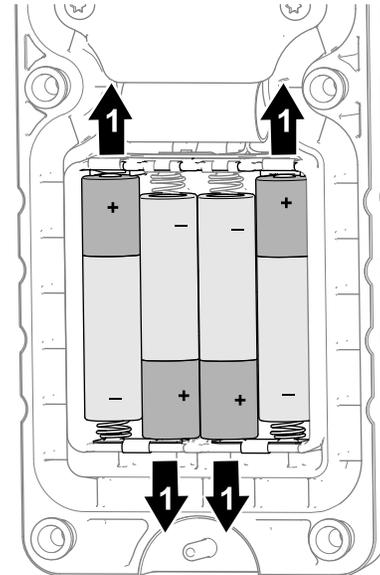

Figure 42
3. Observing battery polarity as shown in Figure 42, insert the new batteries into the terminal cradles.
Note: When installing batteries, observe proper polarity markings (Figure 42) that are embossed onto the battery compartment to avoid damaging the terminal cradles. You will not damage the machine if you incorrectly installing the batteries in the handheld remote, but the handheld remote will not operate.